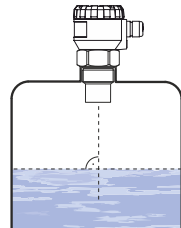

Fig. 1: Recommended installation in the tank
- Install the level meter in the vertical position into the upper lid of the tank or reservoir using a welding flange, a fastening nut or a flange so that the level meter axis can be perpendicular to the surface level of the measured liquid (Fig. 1).